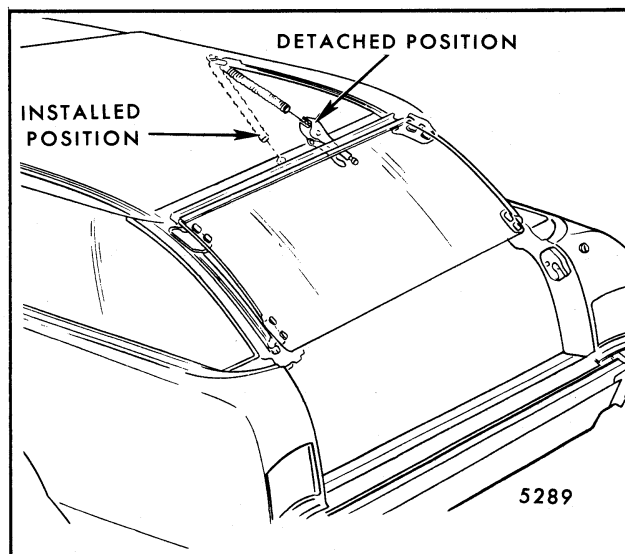

Fig. 7-120-Window Lift Spring Detachment
5. Using adjustable pliers, detach spring from window upper sash channel (at center) and move spring to right side of body to relax spring tension. Avoid detachment of spring from window guide cam at front (Fig. 7-120).